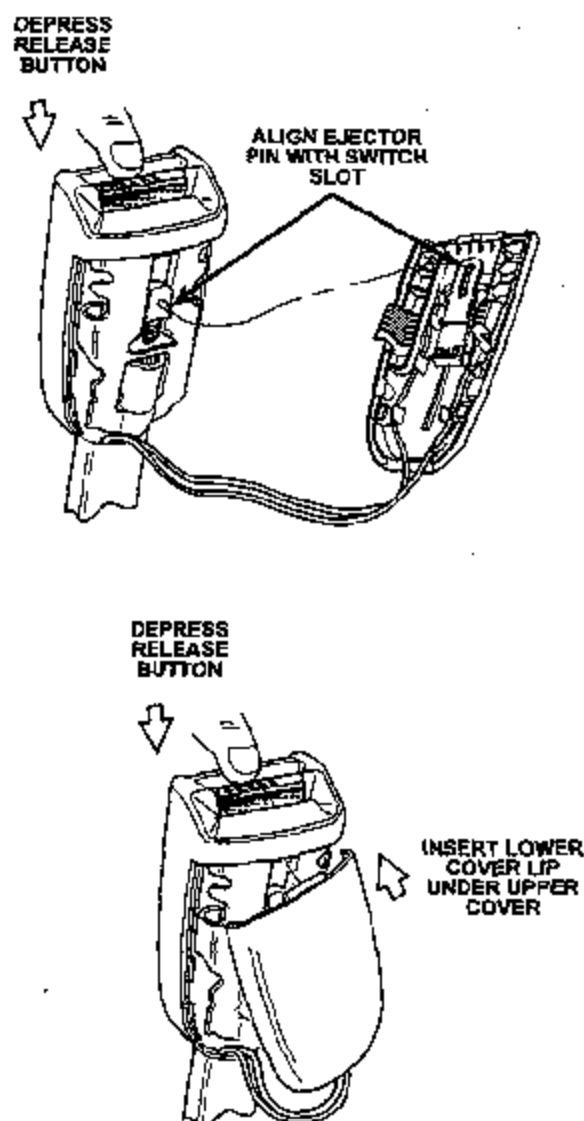

Figure 14
20. While depressing the release button, assemble the lower cover to the upper cover by inserting the lip on the lower cover under the upper cover, then snapping the two parts together (Figure 14).